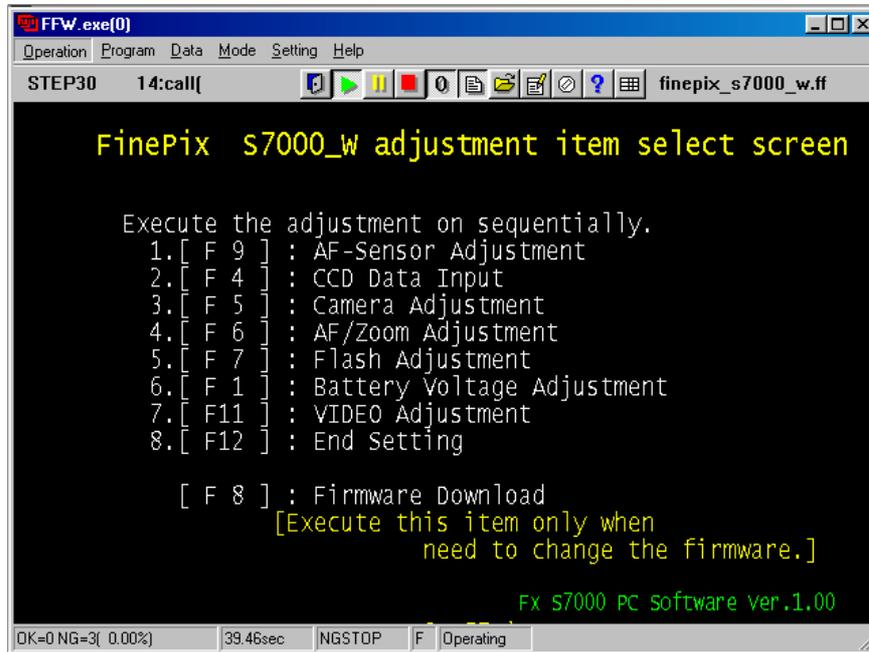

Fig.5
---> The [Adjustment Items Select Screen (Fig.5)] appears.
Select [F9] from the [Adjustment Items Select Screen (Fig.5)]. (press [F9] on the PC keyboard)
---> The system returns to the [Adjustment Items Select Screen (Fig.5)].